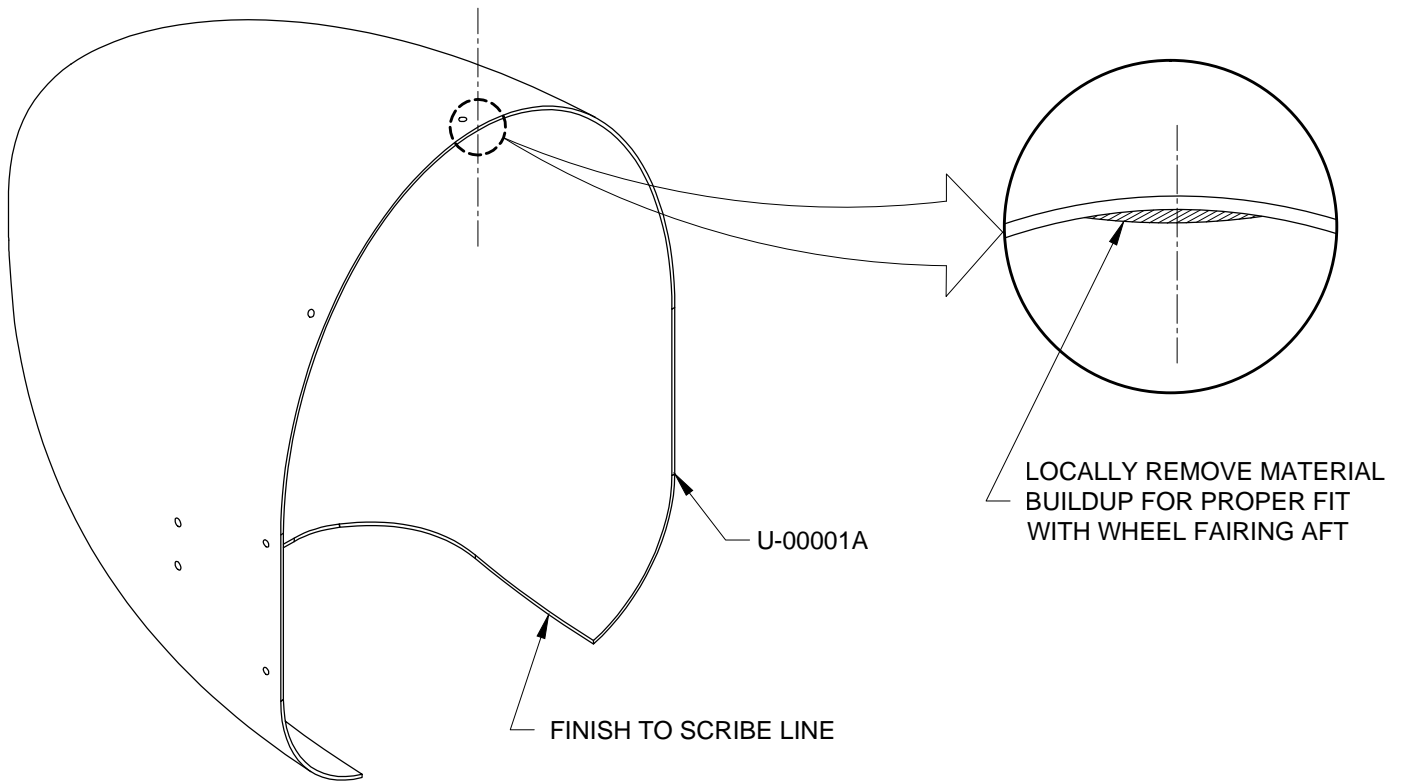

FIGURE 1: PREP FRONT FAIRING
Step 2: Trim the tire opening of the U-00001A Wheel Fairing Front to 1/16 inch from the scribe line with hand shears. Finish to the scribe line using a sanding block. See Figure 1.